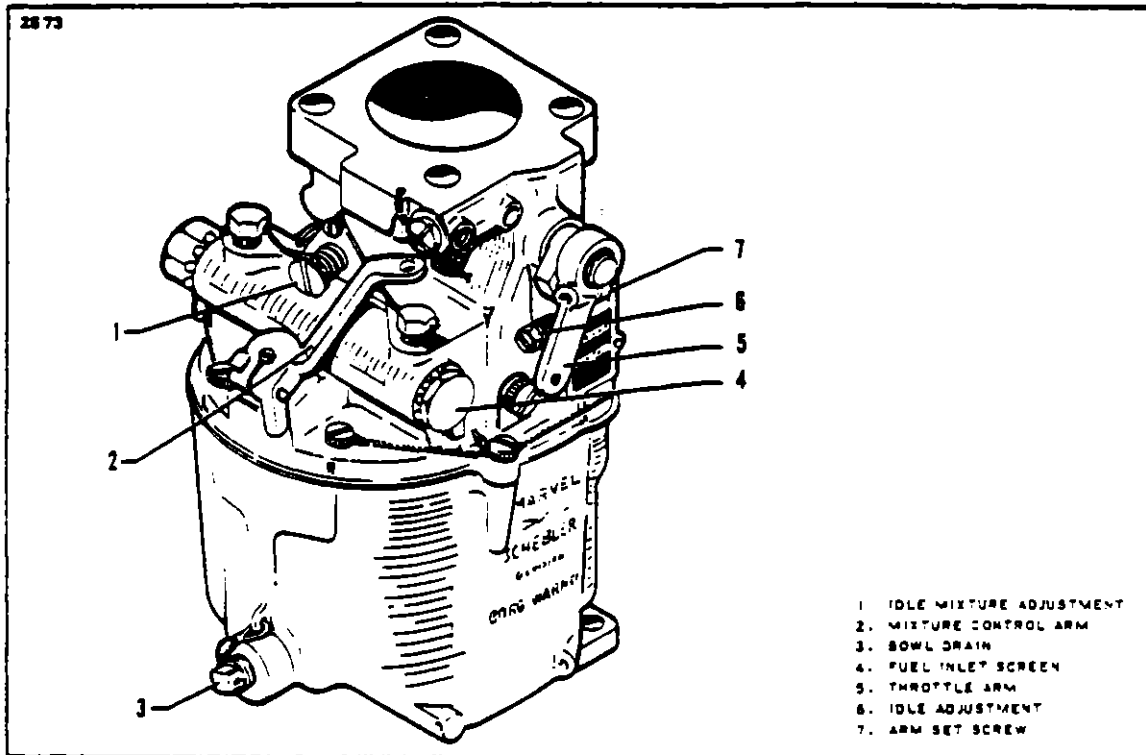

FIGURE 7A-10. CARBURETOR
- d. Clean the fuel inlet screen (Refer to Figure 7A-10)